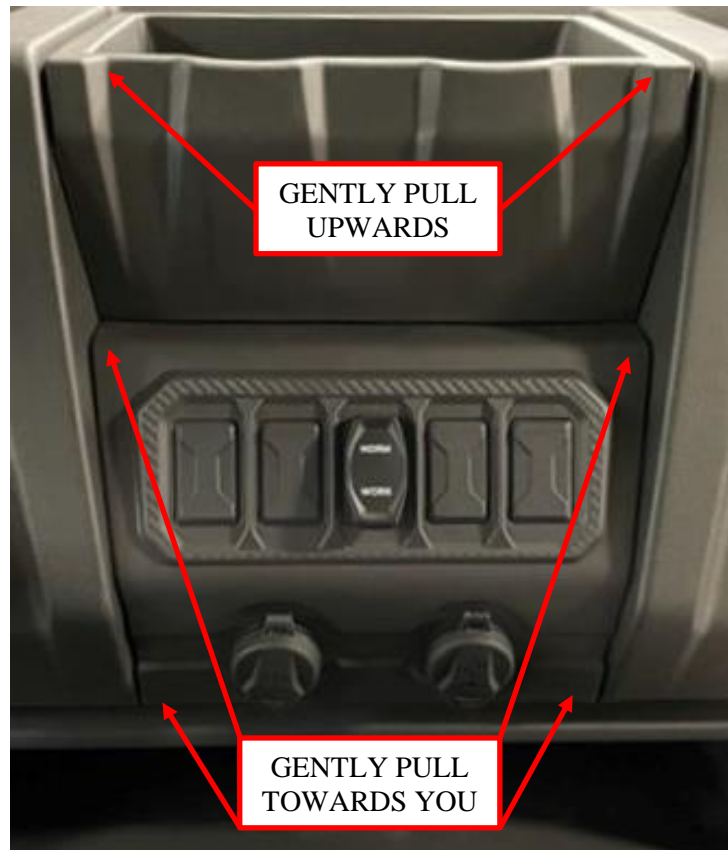

Figure 15: Remove the center sections of the dash.
14. Remove the center sections of the dash to gain access to the factory harness connectors on the 12V power point. Gently pull to release the plastic clips in the areas shown. See Figure 15.
19. Reinstall the two center sections of the dash. See Figure 15.